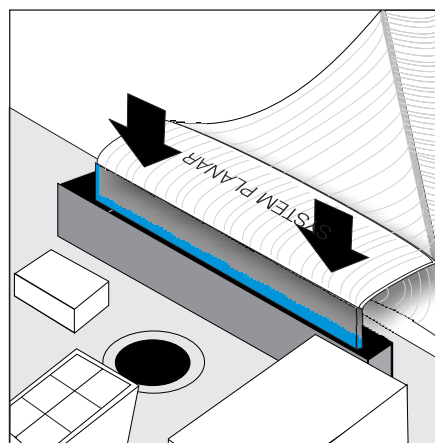

Figure 104. Install the service controller card cable into the system board of the SAN Volume Controller 2145-4F2
11. To reinstall the cables, *carefully* install the one end of the ribbon cable (marked System Planar) to the system board being sure to install the cable straight in. See Figure 104.